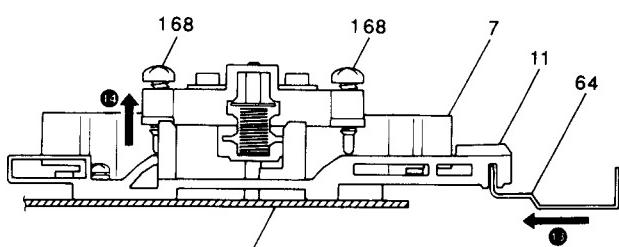

Fig. 9
- d) The shift plate (11) is moved in direction of arrow (⑪), and head moves up and down per arrows (⑫, ⑬ and ⑭) in Fig.9.